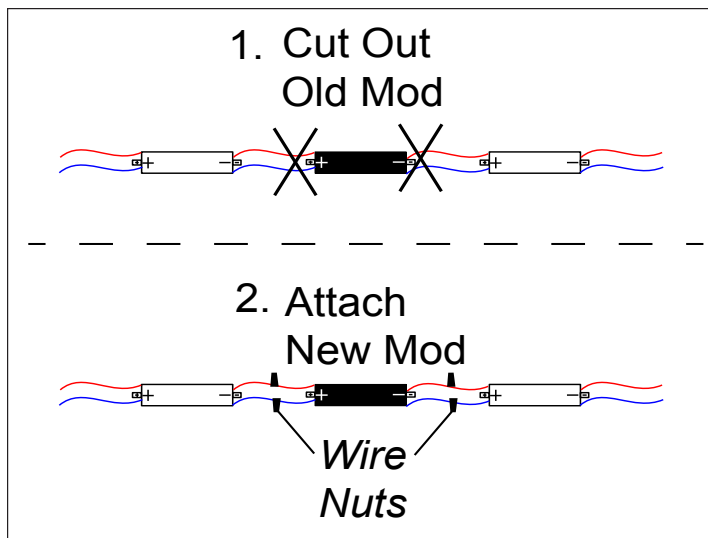

Figure 22: LED Light String Module Replacement
2. Remove the malfunctioning module by cutting the red and blue wires connecting it to the rest of the light string. Refer to **Figure 22 (1)**. Cut the wires as close to the old module as possible to ensure there is enough leftover wire for reconnection. Each module is held in place by double-sided tape on the back. Use a flathead screwdriver underneath the module to pry it free.
4. Connect the new module to the rest of the light string using wire nuts (red to red and blue to blue). Refer to **Figure 22 (2)**.